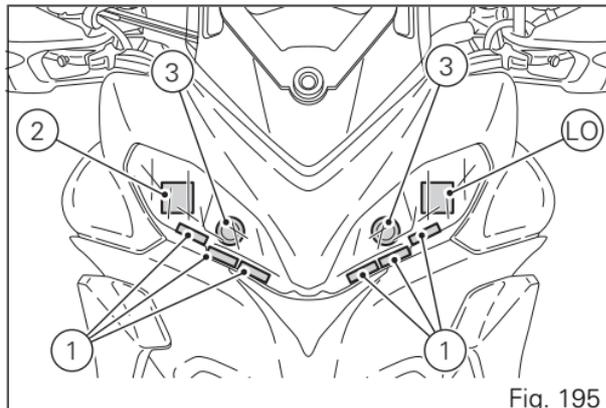

Fig. 195
(Fig. 195) shows the locations of the parking light LED unit (1), low beam LED unit (2) and high beam lights (3).